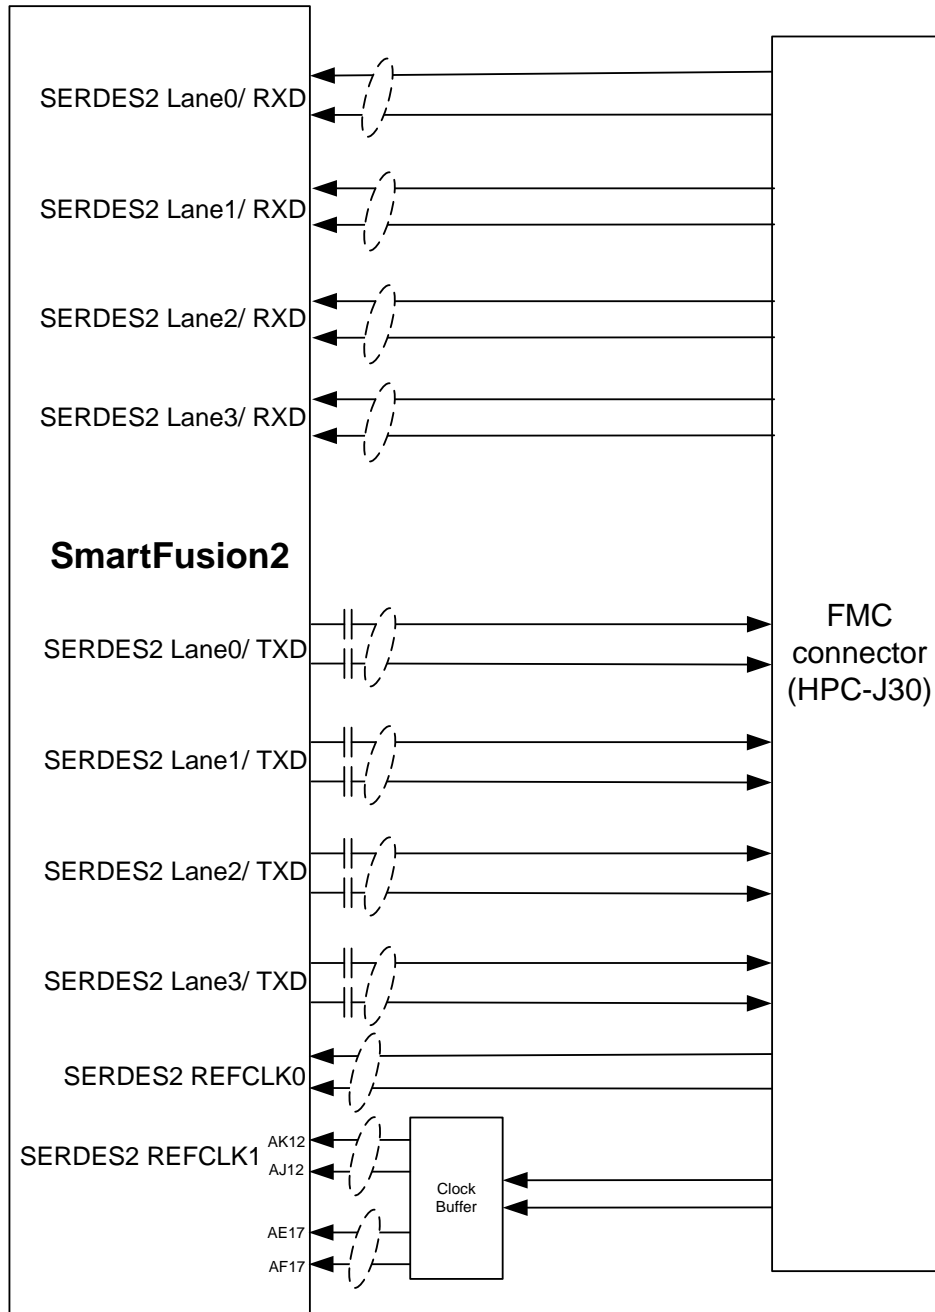

Figure 9 - SERDES2 Interface
- SERDES2 reference clock 1 is routed from the FMC connector through the Clock buffer. The output of the clock buffer is additionally routed to the SmartFusion2 Advanced Development Kit board pins - AE17 and AF17. Refer to Figure 9.